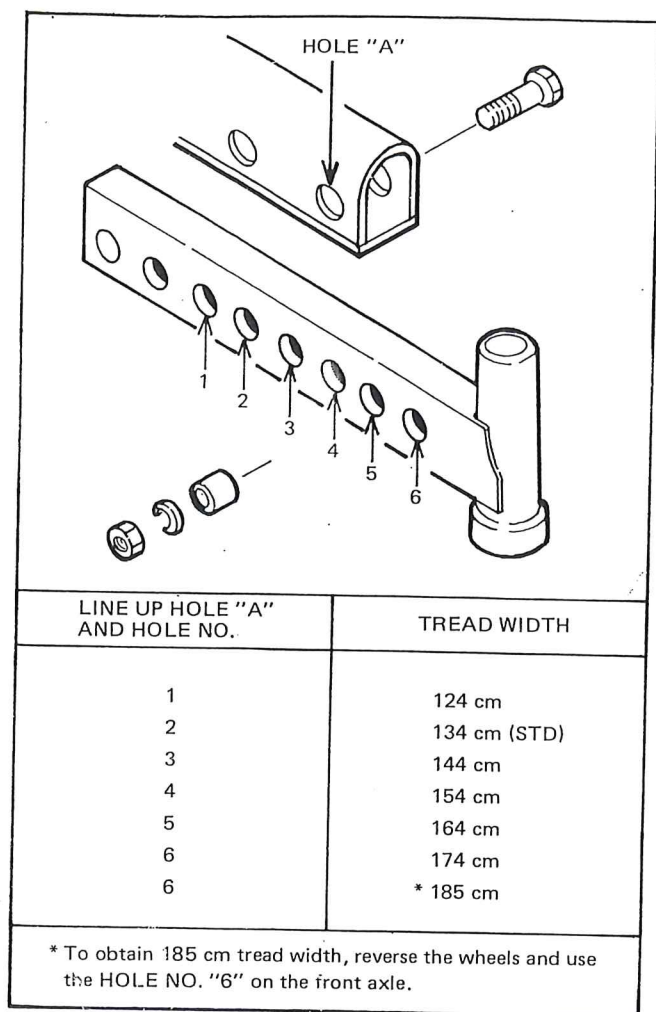

Figure 30 — Front Wheel Tread Settings
The front wheel tread setting is adjustable from 124 to 185 cm by a combination of repositioning the front axle and reversing the front wheels. See Figure 30. To reposition the front axle.
3. Remove the adjusting bolts, Figure 30, and move the axle sections in or out until the desired setting is obtained, then reinstall the adjusting bolts.